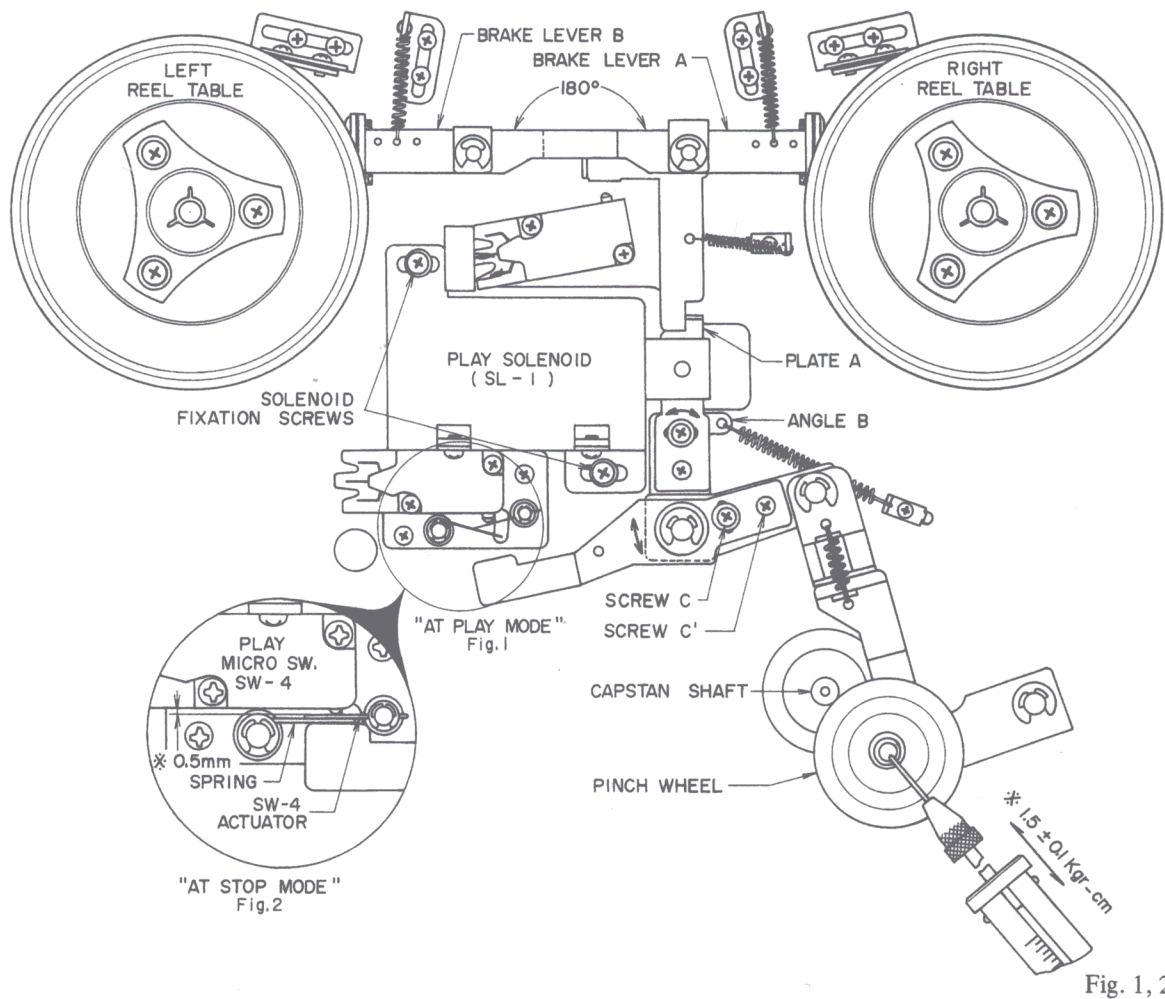

Fig. 1, 2
1. ADJUSTMENT OF PINCH WHEEL PRESSURE (Refer to Figs. 1 and 2)